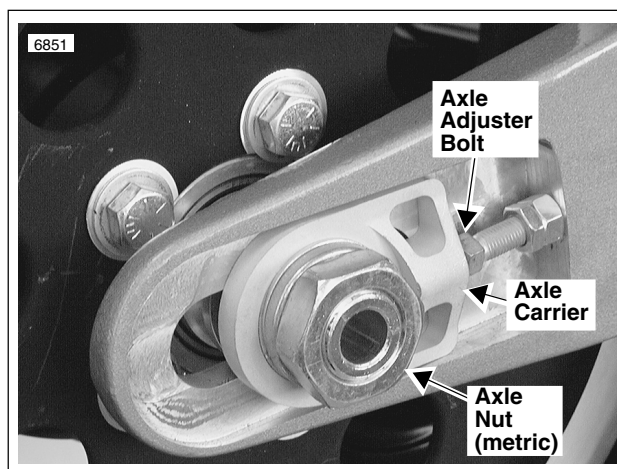

Figure 1-23. Rear Axle Adjuster
1. See Figure 1-23. Loosen rear axle nut (metric), if not already loose.